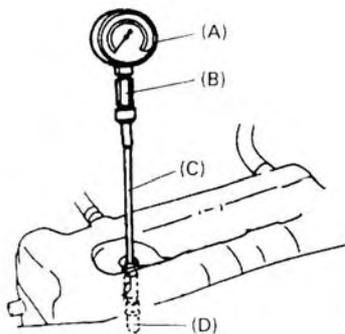

Fig 4-200
- 5) As shown Fig 4-200, install special tool in spark plug hole (cylinder pressure gauge).